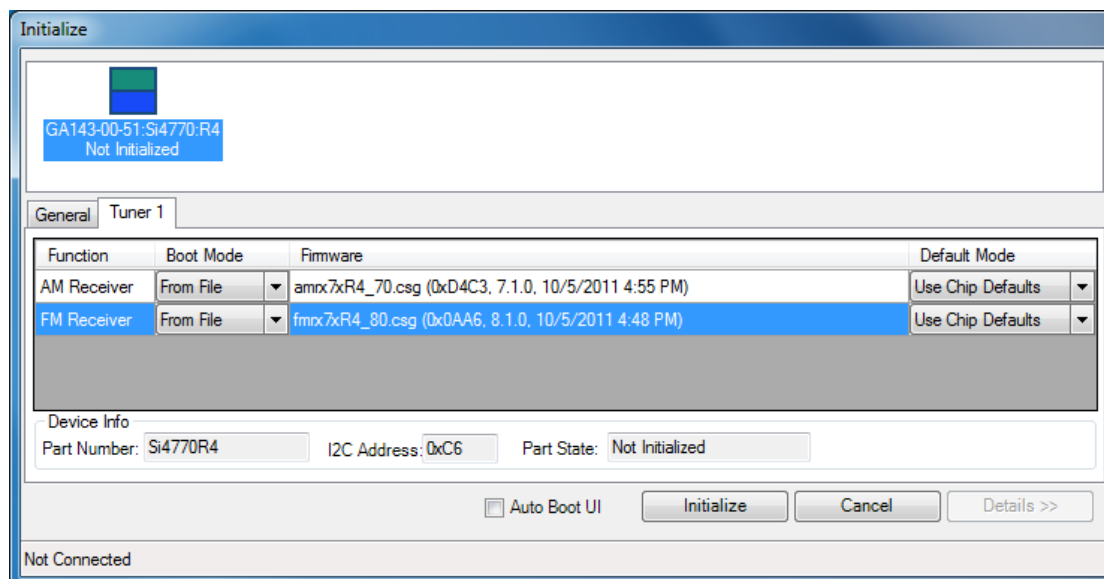

Figure 9. Firmware Configuration Window
Additional options are available in the Firmware Configuration window, shown in Figure 9. “Firmware Configuration Window”.
- f. **Firmware selection:** The firmware for the tuner (or tuners in multi-tuner configurations) may be selected by selecting the appropriate Tuner tab as shown in Figure 9. "Firmware Configuration Window". In particular,